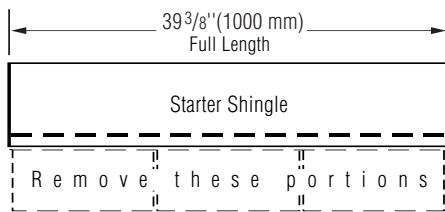

Figure 10-13: Make starter shingles by removing the lower tabs.
1. Use CertainTeed Swiftstart or a starter course consisting of the shingles from which the lower tabs have been removed (*Figure 10-13*). Remember, the sealant on starter courses should lay as close as possible to the eaves edge of the roof.
3. Continue with full-length starter-course shingles along the eaves. (*Figure 10-13*).
- Use CertainTeed Swiftstart or a starter course consisting of the shingles from which the lower tabs have been removed (*Figure 10-13*). Remember, the sealant on starter courses should lay as close as possible to the eaves edge of the roof.